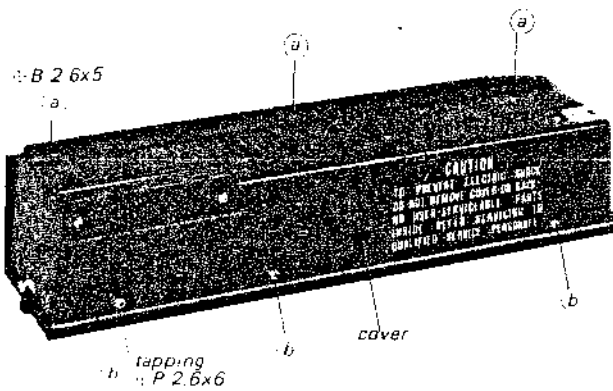

Fig. 4 Cover removal
- 1-1. Remove the six screws marked (a) and (b) in Fig. 4.